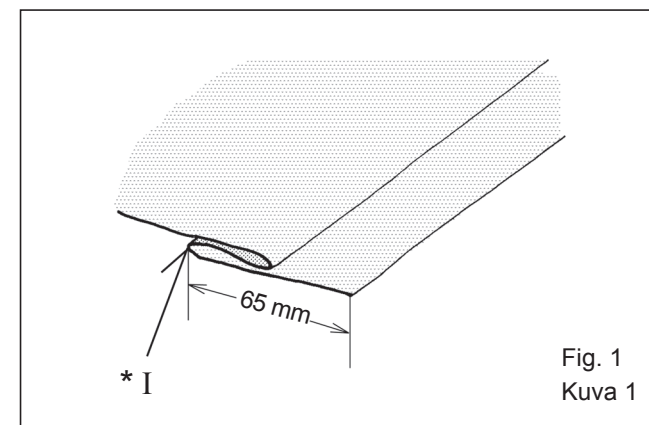

Fig. 1
1. Turn up the hem to the required depth and press. Fold the hem back against the 'right' side of the garment, creating a 'soft' fold on the 'wrong' side of the fabric – see Fig. 1.